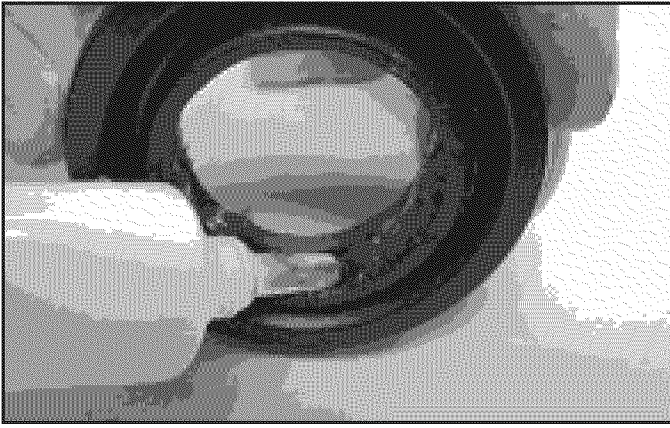

FIGURE 17
29. Locate Tub Seal and Grease. Apply grease to both cavities inside Tub Seal lip. See *Figure 17*.